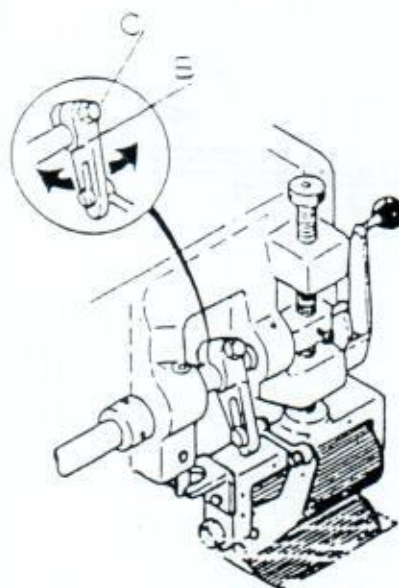

Fig. 28
1. Loosen the upper shaft lever nut C in Fig 28.